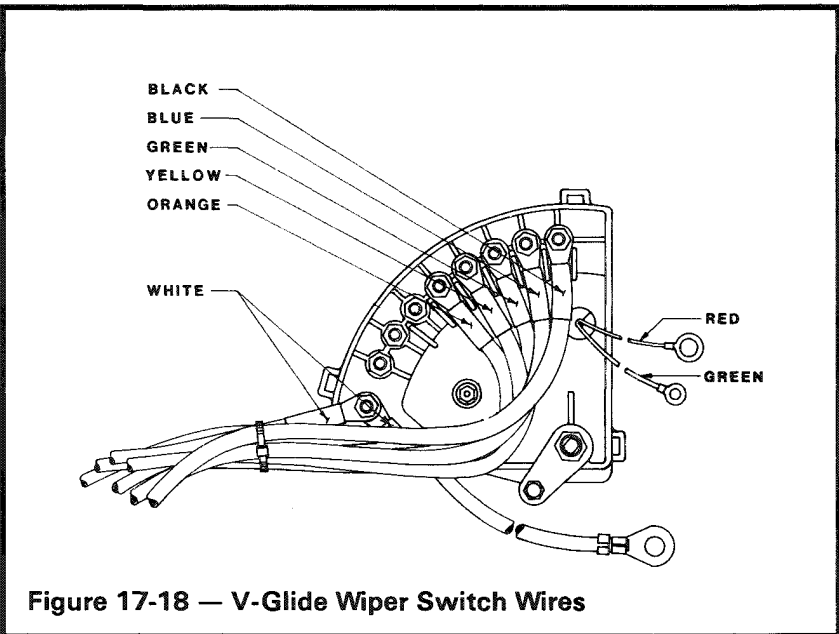

Figure 17-18 — V-Glide Wiper Switch Wires
5. Install the #6 white wire (35) from the first resistor coil and the #6 white wire (34) from the solenoid to the brass bolt (43) (Figure 17-18). Install the lockwasher (8) and brass nut (48) to the brass bolt (43) and torque to 4/5 N-m (35-45 in.-lbs.).
6. Install the #6 orange wire (37) to the fourth contact from the bottom. Torque to 4/5 N-m (35-45 in.-lbs.). The first three contacts do not have any wires connected to them.
7. Install the #6 yellow wire (38) to the fifth contact from the bottom. Torque to 4/5 N-m (35-45 in.-lbs.).
8. Install the #6 green wire (40) to the sixth contact from the bottom. Torque to 4/5 N-m (35-45 in.-lbs.).
9. Install the #6 blue wire (40) to the seventh contact from the bottom. Torque to 4/5 N-m (35-45 in.-lbs.).
10. Install the #6 black wire (41) to the eighth contact from the bottom. Torque to 4/5 N-m (35-45 in.-lbs.).